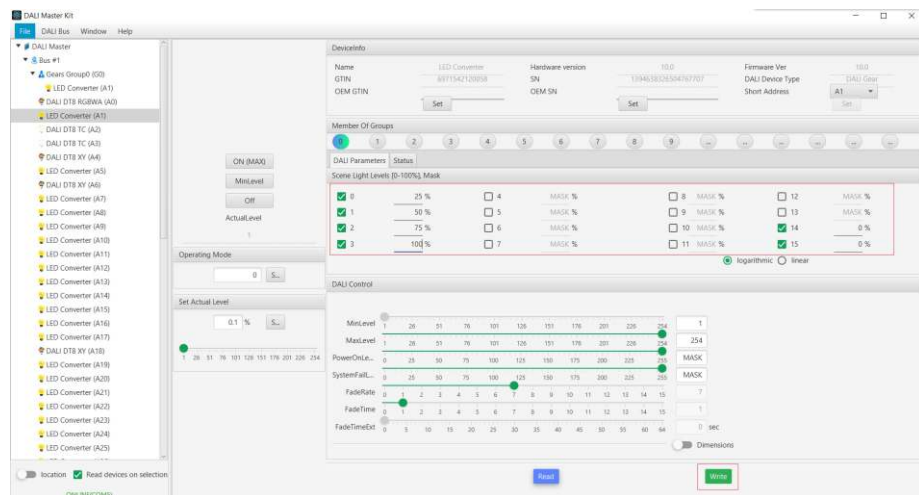

Figure 10 DALI Scene Configuration for DT6 Device
4.1. Click to choose a DALI Device under Bus #1 on the left column of main window, the DALI configuration parameters of this device will be shown on the right side. The configuration item “**Scene Light Levels**” under “**DALI Parameters**” is to configure maximum 16 DALI scenes of a DALI device. Click to tick the scene numbers, then the scenes can be configured as shown in Figure 10.
4.2. For DT6 device, just brightness level should be set for a DALI scene. After setting the parameter of the scenes, Click on “Write” button on bottom right of the window to write the scenes to the DALI device as shown in Figure 10.